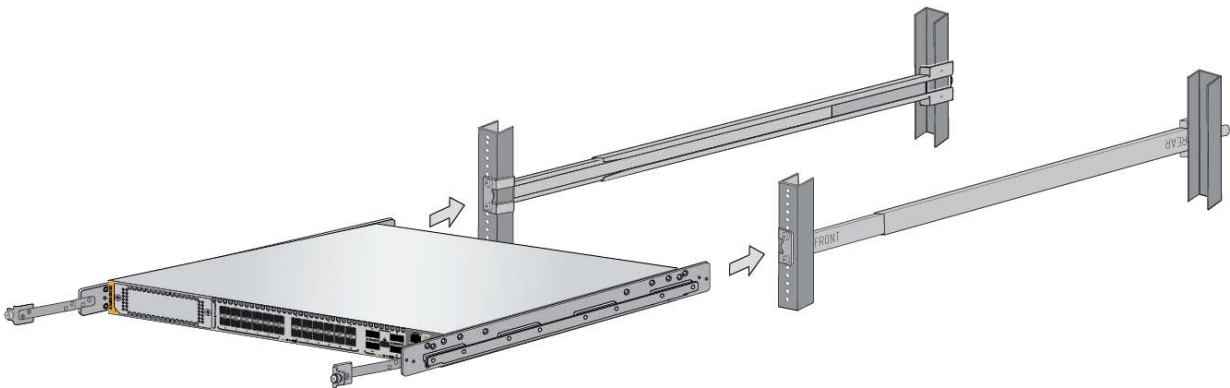

Figure 23. Sliding the Inner Rails on the Switch into the Outer Rails
1. Install the switch in the sliding rack by sliding the inner rails into the outer rail grooves. Refer to Figure 23.